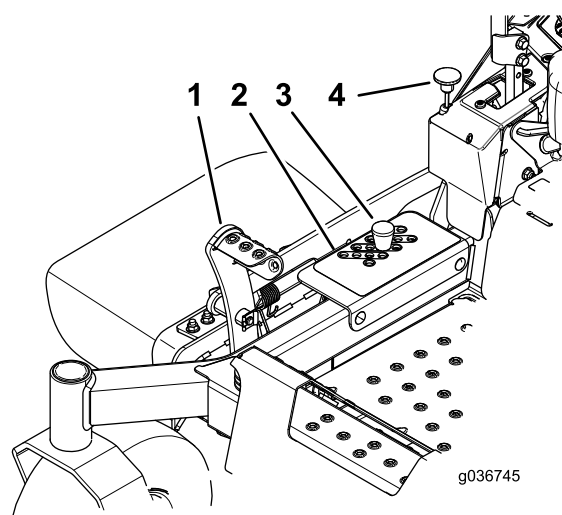

Figure 29
2. Push on the deck-lift pedal with your foot and raise the mower deck to the TRANSPORT position (also the 127 mm or 5 inch cutting-height position) as shown in Figure 29.
3. To adjust, remove the pin from the height-of-cut bracket (Figure 29).
4. Select a hole in the height-of-cut bracket corresponding to the height-of-cut desired, and insert the pin (Figure 29).